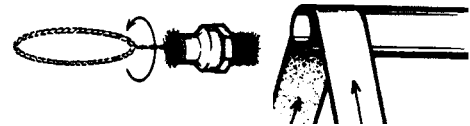

FIGURE 12.
5. Cleaning and brushing the piping and fittings is one of the most important aspects of sweat connections. Clean the ends of each piece of copper with emery cloth. See Figure 12. Clean the inside of each sweat fitting with a wire brush as shown. Make sure you do not touch the cleaned areas.